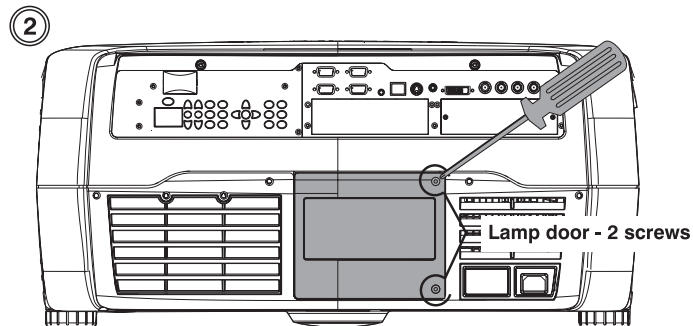

Figure 4.2.
2. Using a screwdriver, loosen the 2 screws from the lamp door located at the back of the projector, below the input panel. (Figure 4.2.)